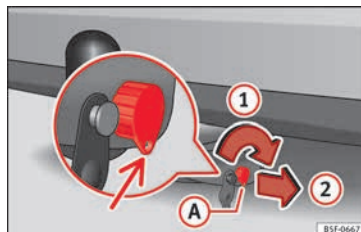
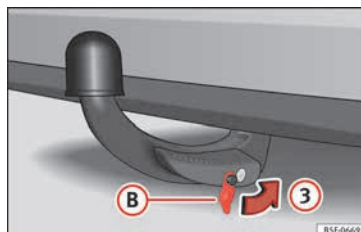

Fig. 224 Locking the lock
Fig. 225 Placing the cover over the lock.
- Turn key A in the direction of arrow ① until the part of the key with the holes reaches the bottom position » Fig. 224.
- Remove the key in the direction of arrow ②.
- Place cover ③ in the lock in the direction of arrow ③ » Fig. 225 » ①.